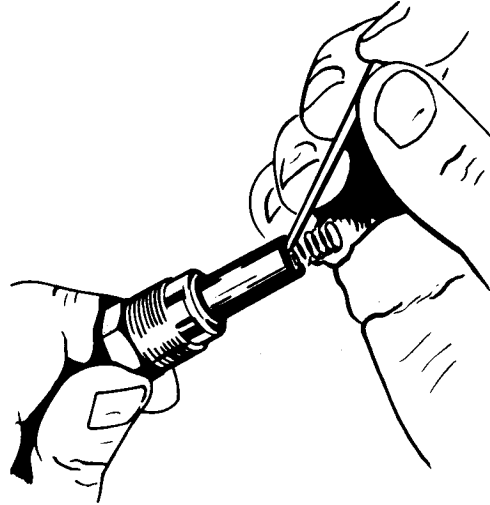

Figure 74-11. Removing Spring From Lead Assembly
- A. Using a Bendix 11-7073 Needle or a mechanical pencil with the lead retracted, hook the end of the contact spring as shown in Figure 74-11.